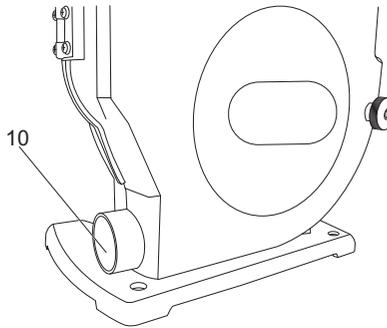

Fig. 20
- > The band saw is equipped with dust extraction port (10) for extracting sawdust and chips. (Fig. 20)